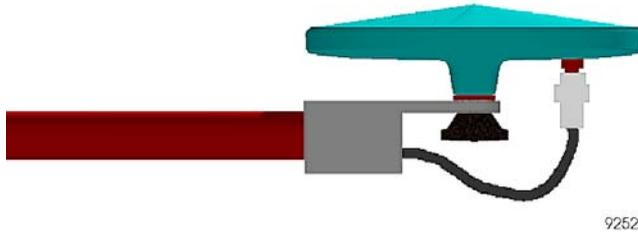

Figure A.7. Alignment of Cable Port, Cross Arm, and Antenna Bolt
6. Screw each antenna onto a cross arm. Make sure the cable port on the outside of the array, aligned with the cross arm and antenna bolt (Figure A.7.). This ensures that antennas are always mounted in the same relative positions. A change from this routine may necessitate a recalibration of the array.